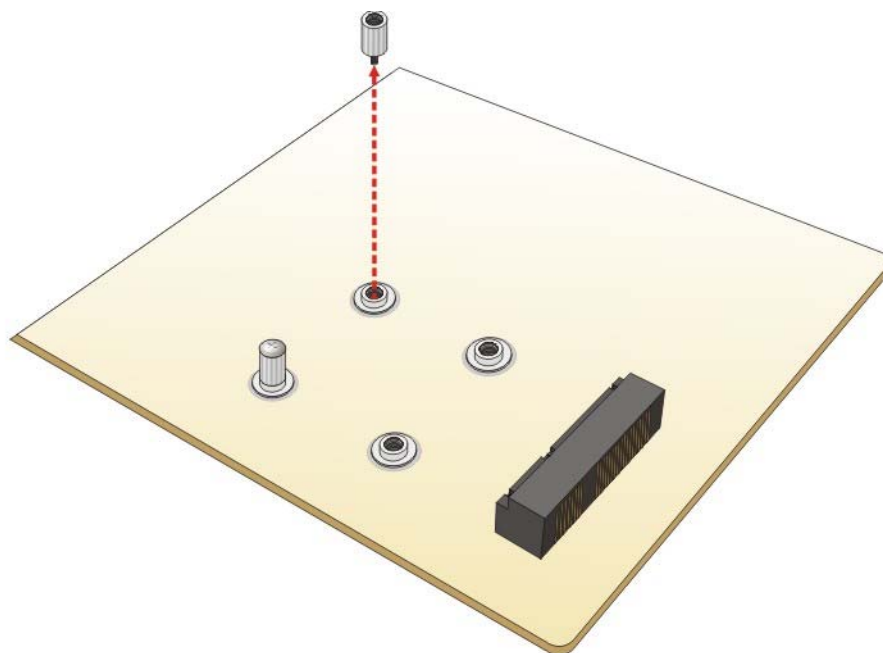

Figure 4-6: Removing the Standoff
Step 3: Remove the **standoff**. Unscrew and remove the standoff secured on the motherboard as shown in **Figure 4-6**.